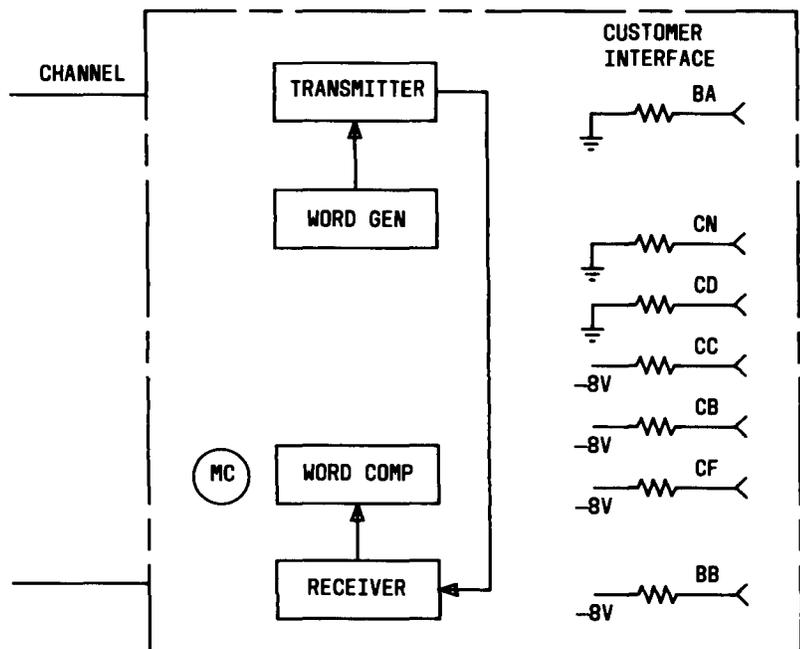

Fig. 5—Analog Loopback Self Test—Simplified Block Diagram
4.03 The analog loopback self test checks the data set transmitter and receiver (Fig. 5). The customer interface is not checked. Test data (dotting pattern) generated by the data set is looped internally from the transmitter output to the receiver input. The received data is compared to the transmitted data. This test can be performed